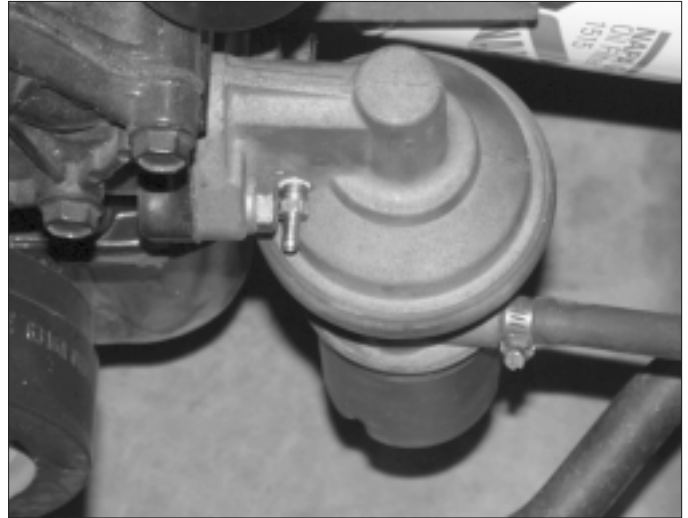

Fig. 5-a
- E. Attach the supplied vacuum hose to the barb fitting on the fuel pump. (See Fig. 5-a.) The other end of this hose will later be connected to the carburetor enclosure.